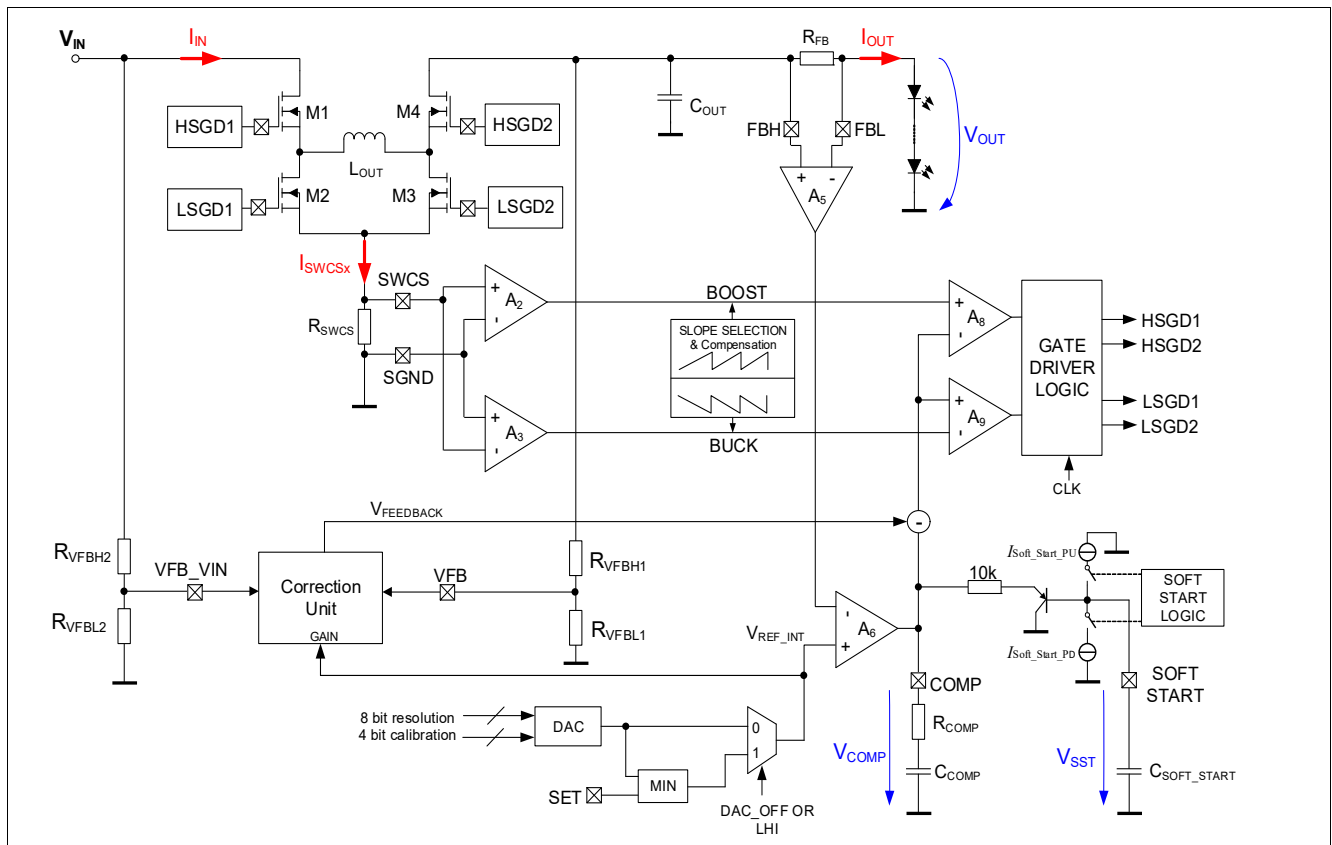

Figure 7 Regulator Block Diagram - TLD5542-1
The control loop block diagram displayed in Figure 7 shows a typical constant current application. The voltage across R_{FB} sets the output current.
An Infineon proprietary correction unit (see **Figure 7**) ensures optimum performance on MFS architecture, minimizing dependency of comp voltage by the analog dimming value, and reduces overshoots during load jump up.
- Limit input inrush current and output overshoots by limiting V_{comp} (**Figure 7**) in boost mode
The Soft Start routine limits the inrush current during boost mode by clamping the COMP pin through a buffer as in **Figure 7**. Therefore this functionality is effective only when Soft Start capacitor is sufficiently larger than the comp capacitor.